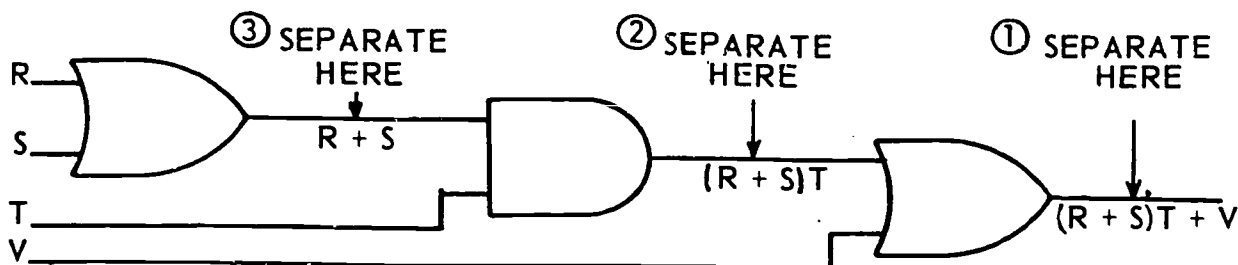

Figure 1-74. Constructing a logic expression.
(1) Begin drawing at the right and work left until all inputs are single letters.
(2) Never separate letters within a group until that group has been separated from the rest of the expression, as illustrated in figure 1-74.